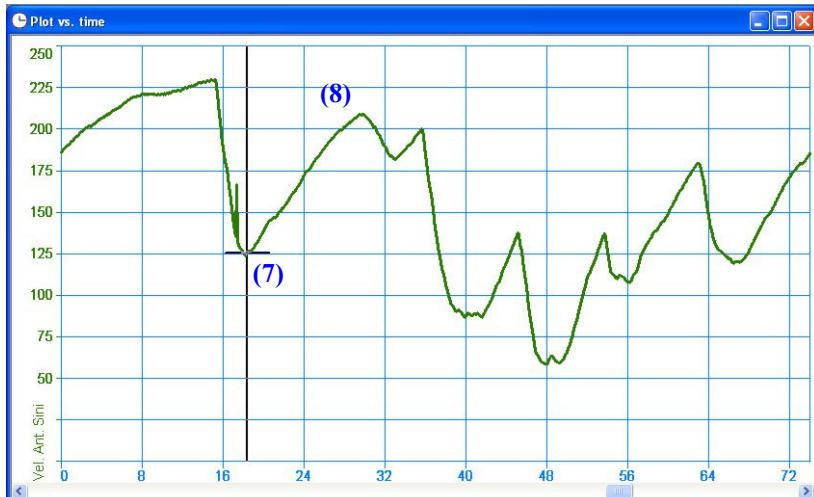

Fig. 6.10– Vehicle speed graph
2. Put the cursor at the beginning of the section you would like to analyse: in Figure 6.10, the cursor has been placed in a low-peak speed position.